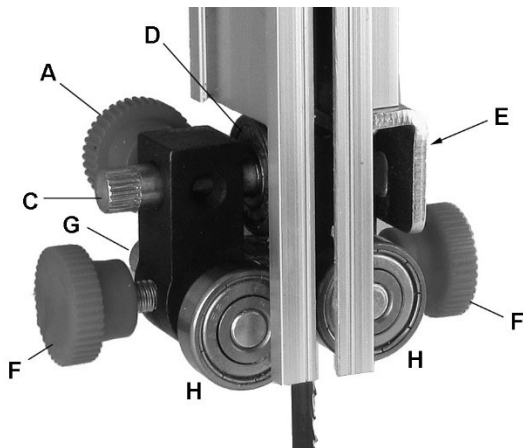
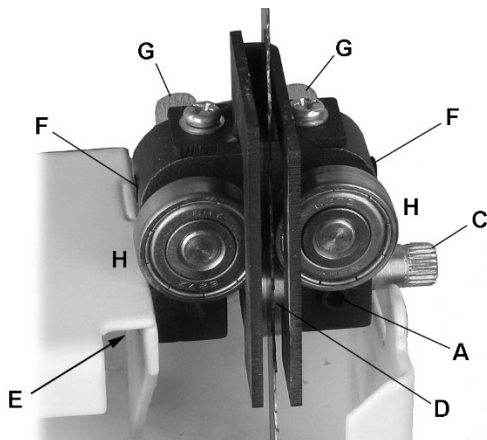

Figure 14: upper blade guides
Figure 15: lower blade guides
There are two blade guide assemblies – an upper assembly (Figure 14) and lower assembly (Figure 15).
Refer to Figures 14 and 15:
2. For the upper thrust bearing, loosen thumbscrew (A, Figure 14). For the lower blade guide, loosen setscrew (A, Figure 15) with the 3mm hex wrench provided.
3. Slide the adjustment shaft (C) so the blade is positioned in the middle of the thrust bearing (D).